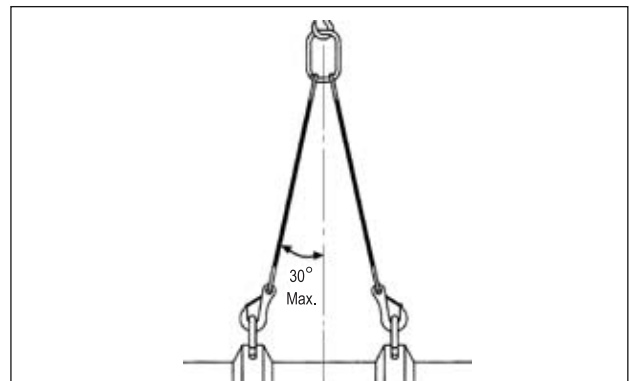
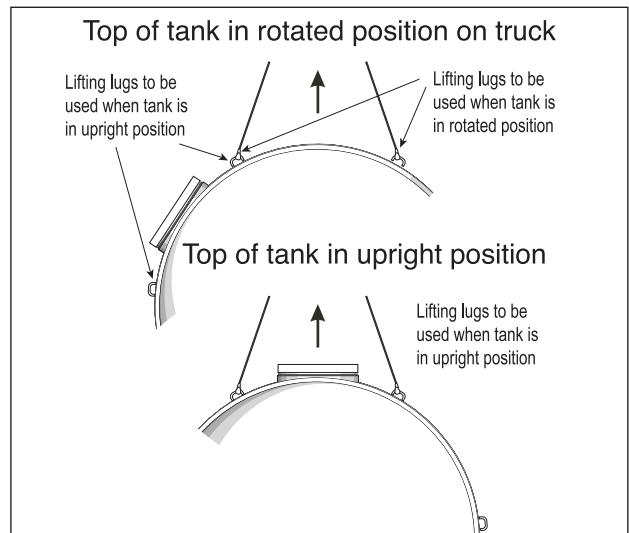

FIGURE 2-1
FIGURE 2-2
2.1.3. When hoisting the tank, follow these instructions: (See FIGURE 2-1 and FIGURE 2-2.)
2.1.3.1. When the tank is not rotated (the tank is upright), use all lifting lugs to unload and install the tank. (See FIGURE 2-2.)
2.1.3.2. Some tanks are rotated on the truck for shipping purposes. These tanks have extra lifting lug(s) to aid in the loading/unloading process. (See FIGURE 2-2.)
2.1.3.2.1. To unload these tanks, use the lifting lugs that are situated on top of the tank in its rotated position. To install the tank, carefully rotate the tank to its upright position and then use all lifting lugs situated on top of the tank in its upright position. (See FIGURE 2-2.)